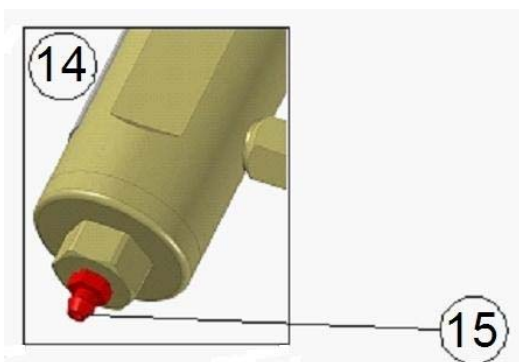

Figure 6 Grease filter (14), venting screw (15)
<p>Warning Ensure that there is no pressure in the system. Before opening the grease filter, remove pressure by opening the venting screw in the filter plug (→ Figure 6, (15)). If the system is under pressure when the components are being disconnected or opened, the components or lubricant might be flung in the air causing injury to people or damage to the environment.</p>